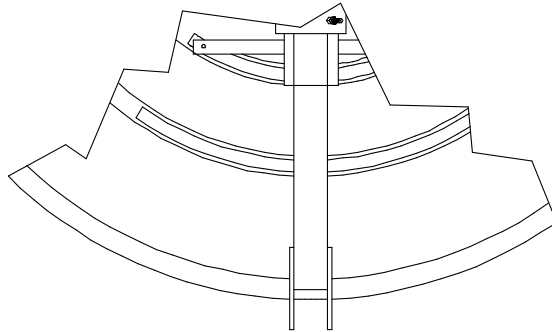

Figure 3.0-0
1. Attach feed support extension (item #16) to reflector support tube using (6)1/2-13 x 1.50 bolts, flat washers, lock washers. Center extension with reflector major axis while tightening. Reference Figure 3.0-0